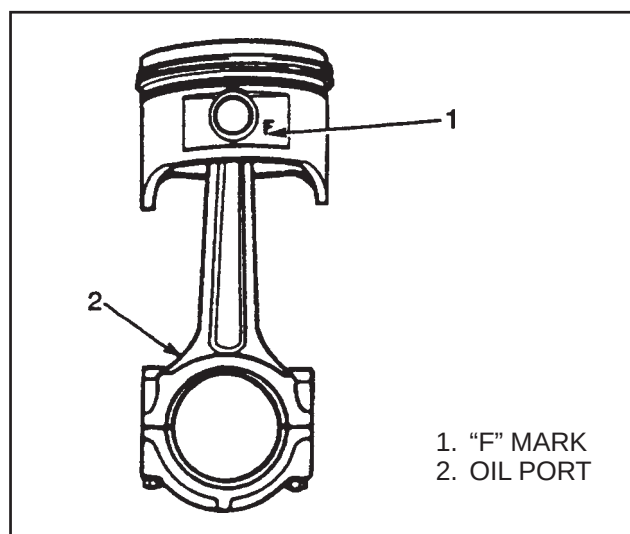

FIGURE 36. CONNECTING ROD AND PISTON
1. Align the oil port on the large end of the connecting rod with the “F” mark on the piston. See FIGURE 36. Lubricate the piston pin and bore in the piston with engine oil. Use a press to install the piston pin. The force to push the pin into the piston must be 5 to 15 kN (500 to 1500 kg). If the force is not correct, replace the piston pin and/or connecting rod. Use the special tool to make sure the piston pin is installed to the correct depth. After installation, check that the piston moves freely on the piston pin.